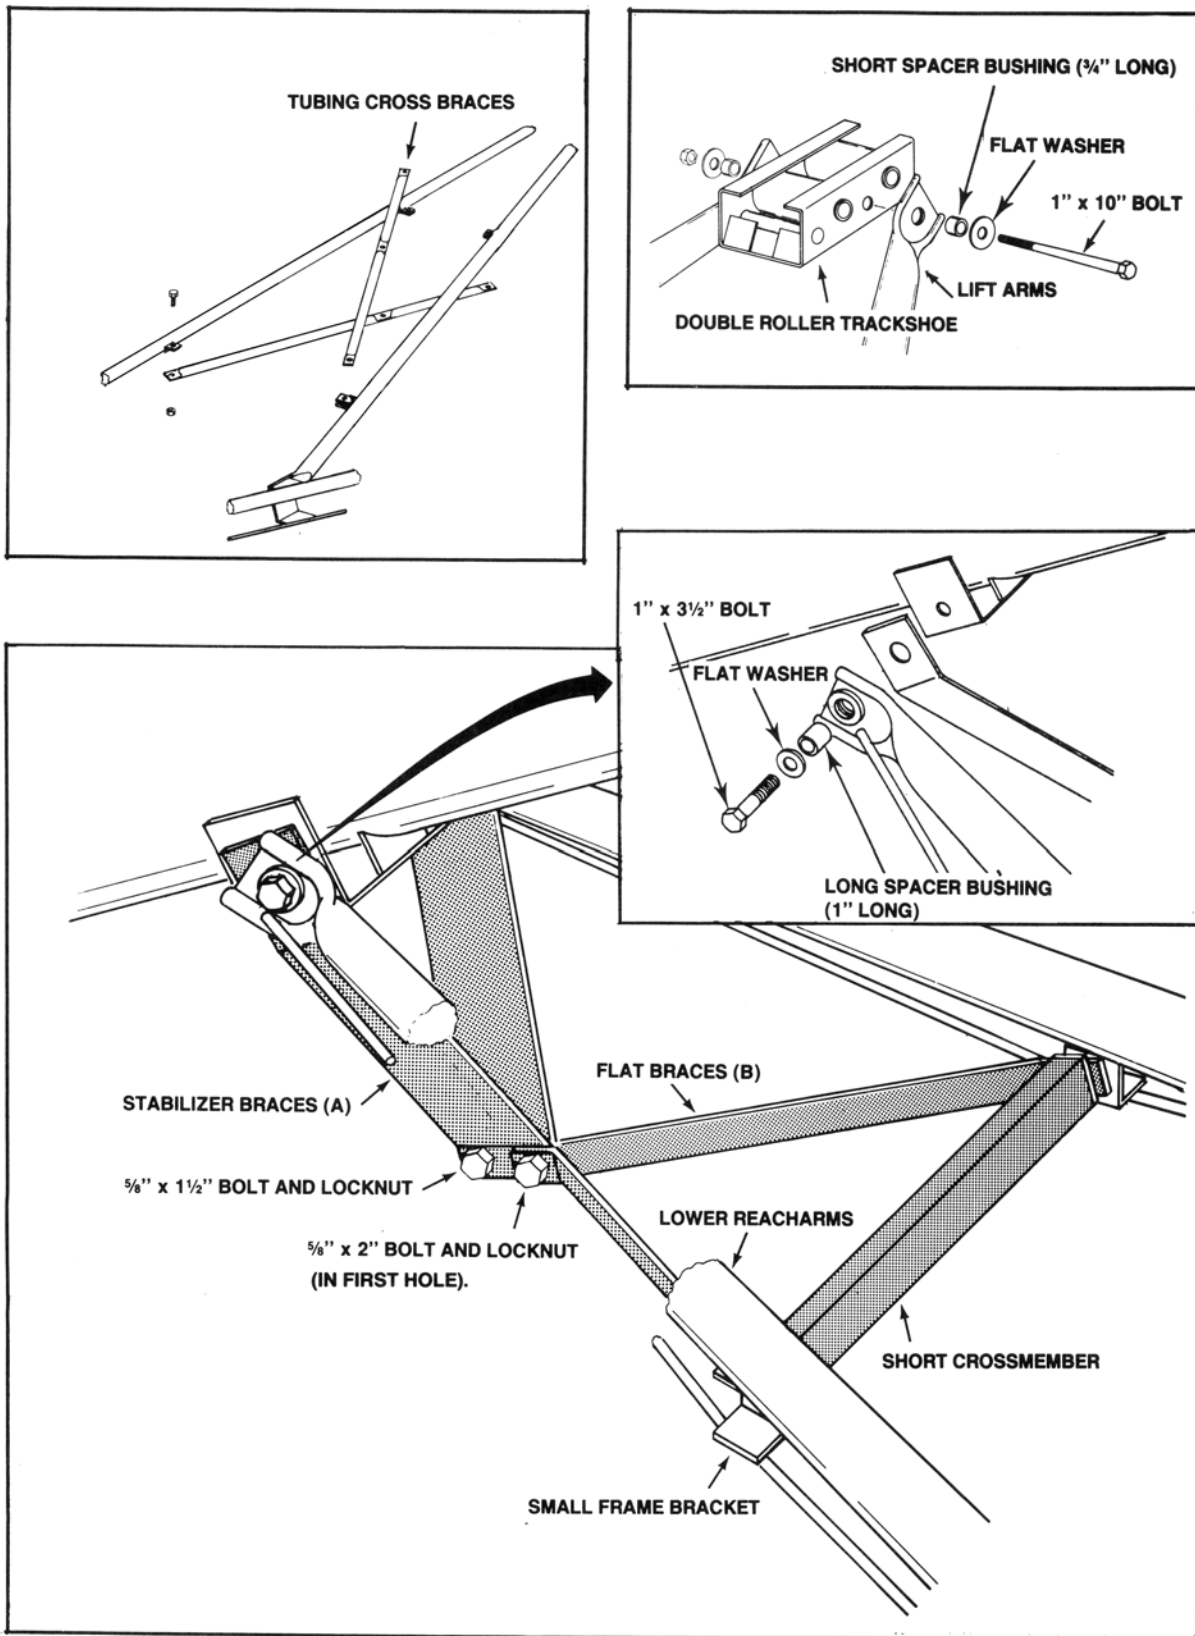

Figure 3.32
4. Loosely attach short crossmember to small frame brackets with two 5/8" x 2" bolts and locknuts, sandwiching the flatbraces (B) between the short crossmember and small frame brackets on each side (Figure 3.32). Leave loose until step 10.
11. Position stabilizer braces (A) (Figure 3.32) and attach lower reach arms to bracket on tube with long spacer bushings (1-1/8" long), 1" flat washers, and 1" x 3-1/2" bolts and locknuts. **Tighten securely.** Reach arms pivot on the spacer bushings.
**Important:** Refer to Figure 3.32 for correct placement of lower reach arms.
12. Fasten flat braces (B) to first set of holes (furthest from intake) on stabilizer braces (A) with one 5/8" x 2" bolt and locknut. Place one 5/8" x 1-1/2" bolt and locknut in other hole of stabilizer brace.
- ➔ 13. **71'**: Attach the tubing crossbraces to the upper lift arms (Figure 3.32) by slipping the tube clamps over the flat pressed ends of the lift arms (where they are attached to the frame) and loosely attaching the tubing crossbraces using five 1/2" x 1-1/4" bolts and locknuts.
- ➔ 14. **71'**: Attach upper lift arms to track shoe. Use a short spacer bushing (3/4" long) and flat washer on both sides; insert the 1" x 10" bolt and **tighten securely** with locknut (Figure 3.32).